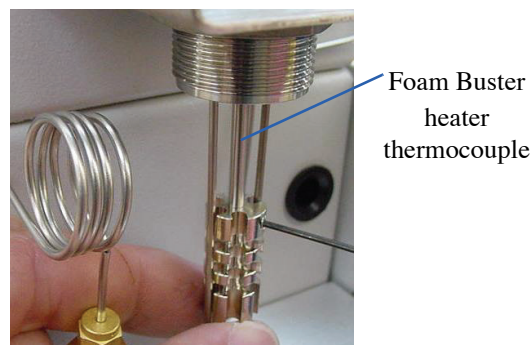

Figure 8.14. Installing the Foam Buster piece
2. Insert the Foam Buster piece onto the Foam Buster heater/thermocouple with the set screw at the top. Position the Foam Buster piece with the sample needle and the sample thermocouple in the slots of the Foam Buster piece (Figure 8.14).